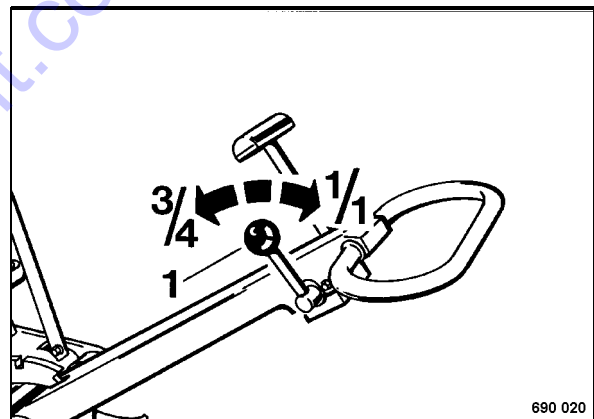

Fig. 18
- Keep moving throttle lever 1 (Fig. 18) between 3/4 and full throttle.